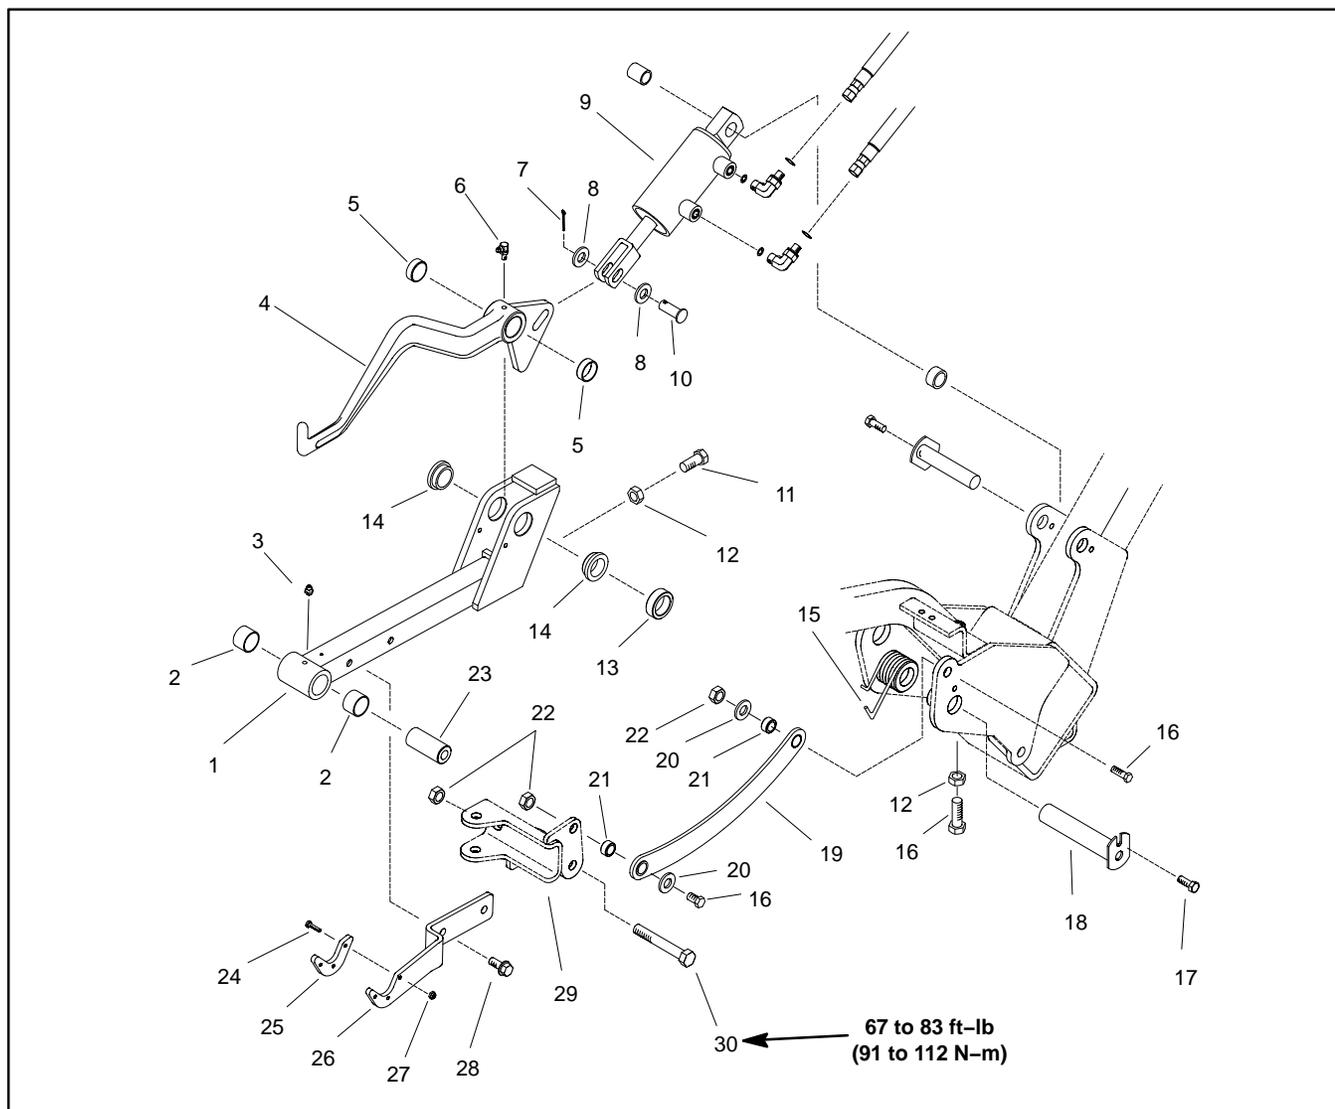
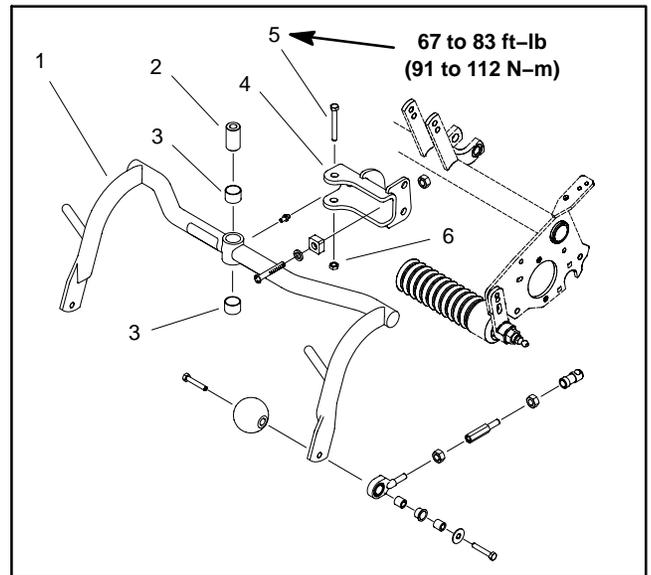

Figure 10
Figure 11
Disassembly (Fig. 10)
3. Disassemble front lift arm as needed using Figures 10 and 11 as guides.
Assembly (Fig. 10)
1. Assemble front lift arm using Figures 10 and 11 as guides.
A. If clevis (item 29) was removed from front lift frame, torque cap screw from 67 to 83 ft-lb (91 to 112 N-m).
B. If pull frame (item 1 in Fig. 11) was removed from clevis on lift frame, torque cap screw from 67 to 83 ft-lb (91 to 112 N-m).
3. Check that when raised to the transport position, the cutting units are secured by the transport plate. If necessary, loosen two cap screws (item 28) and reposition transport plate.